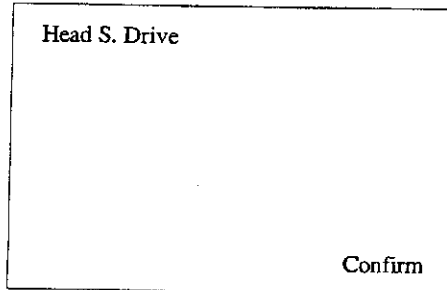

Fig. 1
- 1) Turn ON the main power to the machine. Press the **Mode Select** key. Press the **+** key and **-** key as **+**, **+**, **-**, **+**, **+**, **+**, **+** and **+** following the written order. Then, press **[20]** to select the machine head independent operation mode. (Fig. 1)